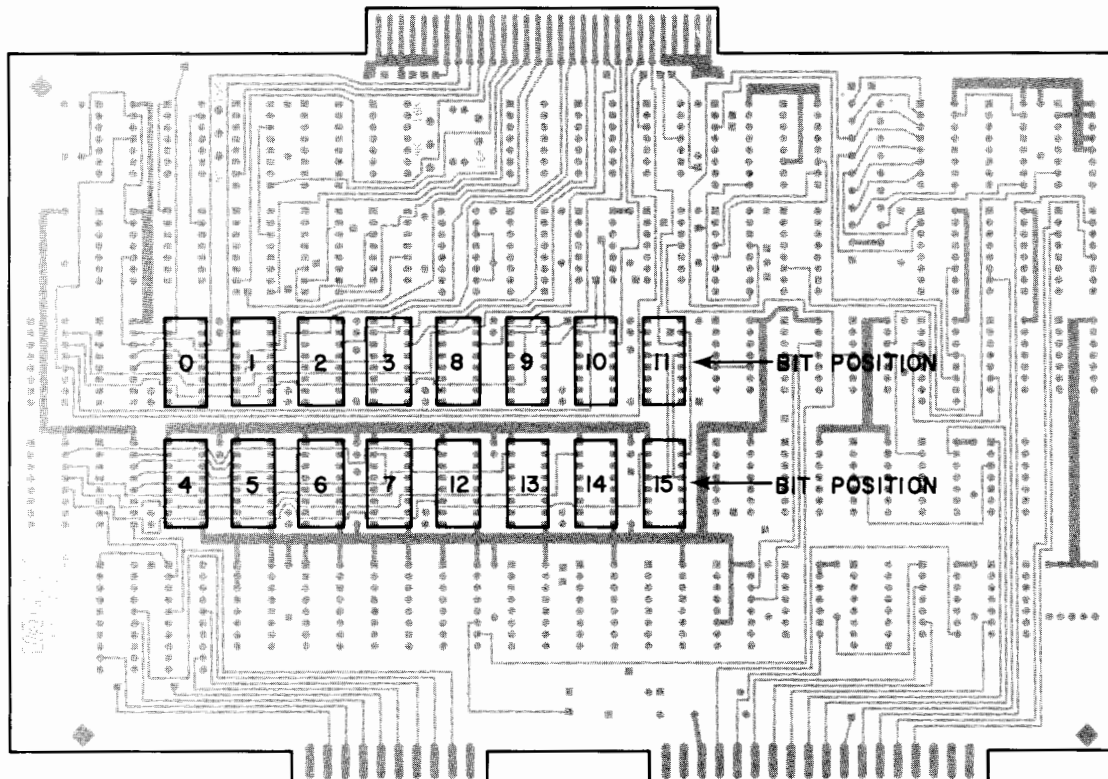

Figure 2-13: Graphics Memory Locations
The graphics memory is located on the A79 assembly (see Figure 2-13).
- If any bit position does not compare, that particular bit is bad. Use Figure 2-13 to determine which chip corresponds to each bit position.